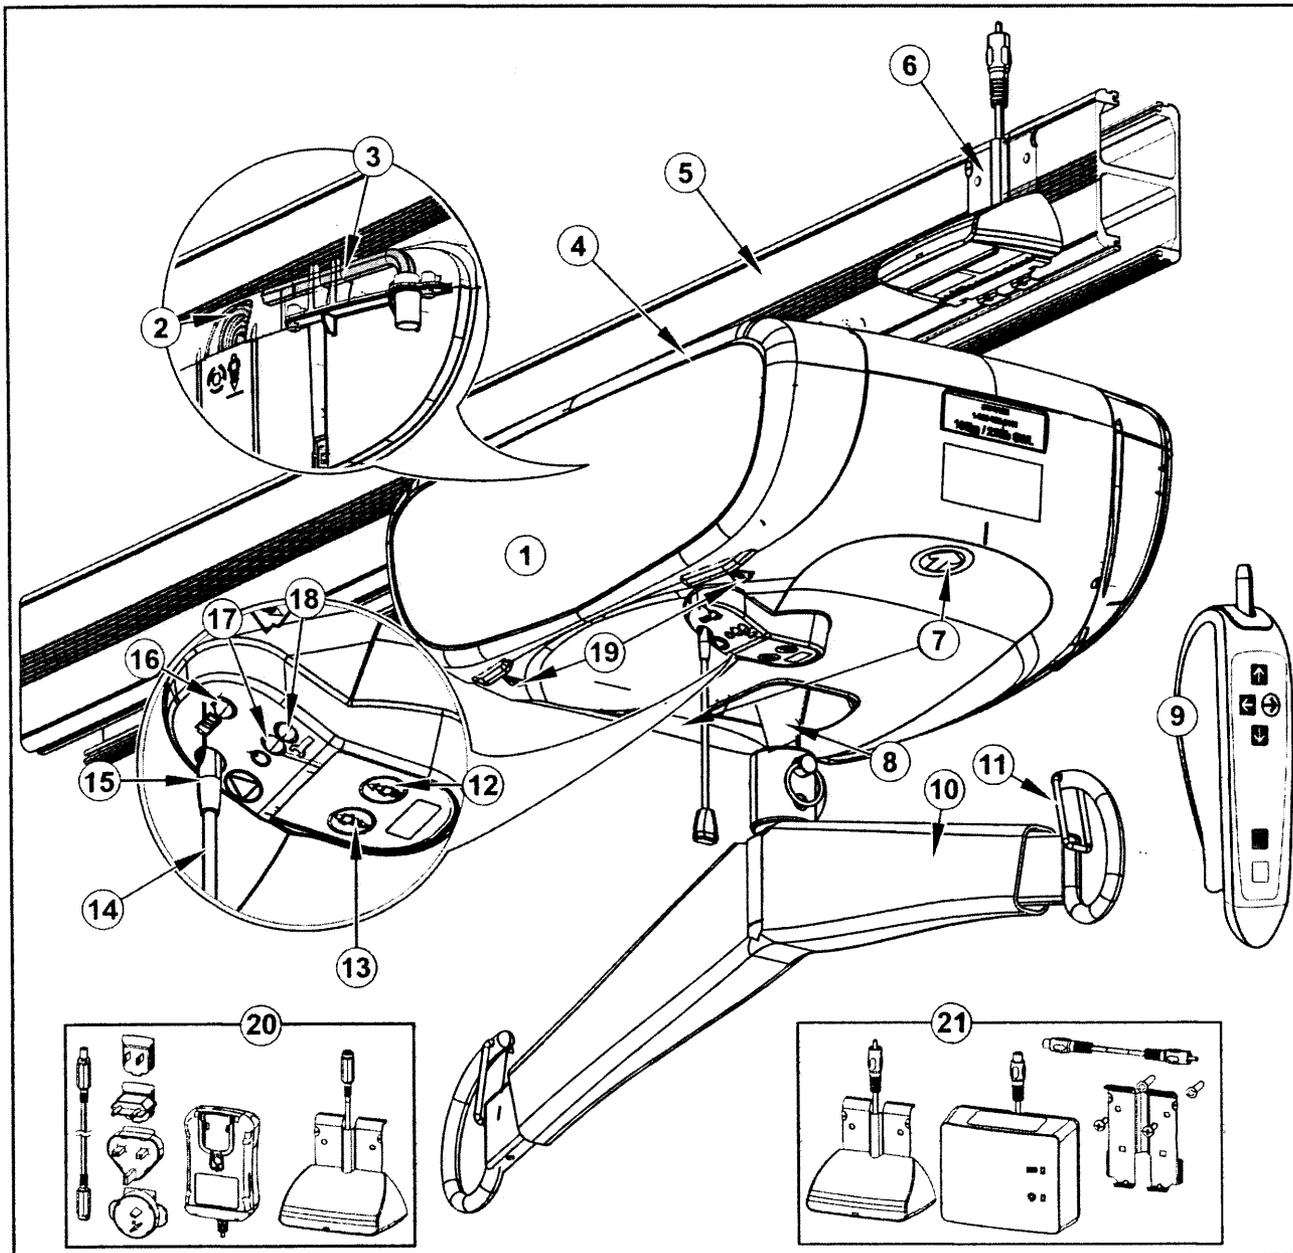

Fig. 4
The following refers to Fig. 4 on previous page:
The Voyager Duo units are equipped with either a cord-connected universal charging system (700.15500) or a wall-adapted charger (700-15501) that can both be customized to fit the AC voltage outlets where they are sold (see Fig. 4).
- 1) To stop the ceiling lift in any emergency, gently pull the red emergency cord once, until you hear a "click" (see Fig. 4 in the "Part Designation" section of this manual). You will notice that the reset switch plastic insert, at the very top of the red cord, has descended. The green power light has also turned off. You may also notice that the patient begins to descend slowly when the emergency stop is activated. This is normal.